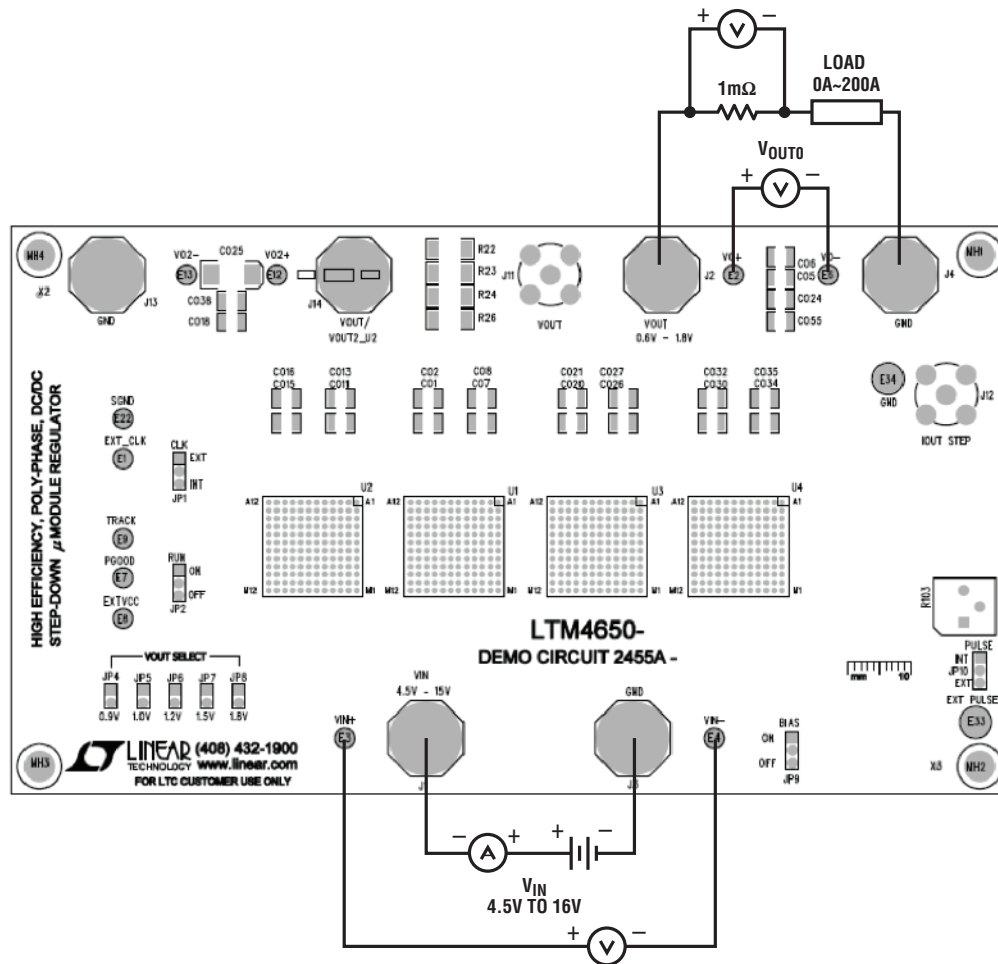

Figure 2. Test Setup of DC2455A-C
Demonstration circuit DC2455A-C is easy to set up to evaluate the performance of PolyPhase operation of the LTM4650EY-1. Due to the high input/output current, user should select the proper input supply/load/cable which can sustain the full load operation. It's recommended to pull load current from J2 and J4. The load current pulled from J5 and J6 shouldn't exceed 25A. Please refer to Figure 2 for proper measurement setup and follow the procedure below:
2. With power off, connect the input power supply, load and meters as shown in Figure 2. Preset the load to 0A and  $V_{IN}$  supply to 12V.